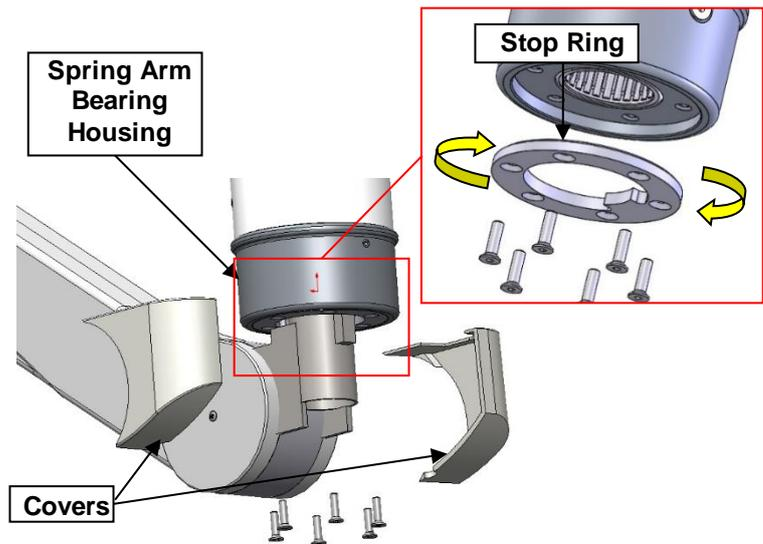

Figure 18
- Using a thin flat blade screwdriver prize open the spring arm covers, remove and retain both parts, see Figure 18 below.